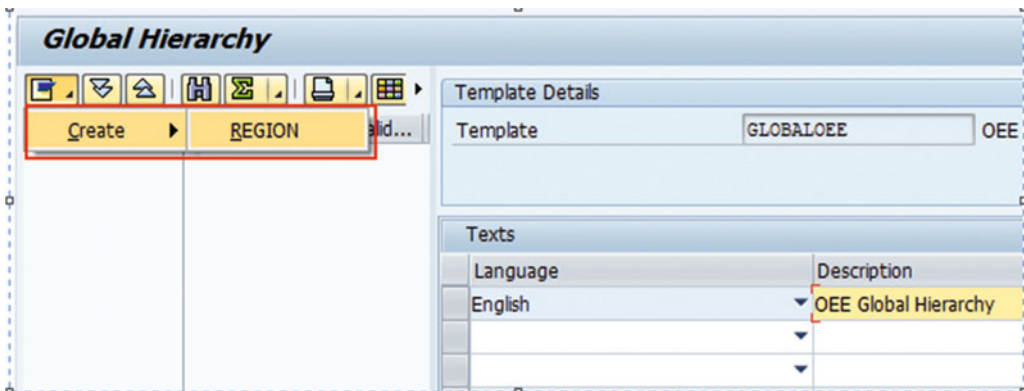

Figure 3-29. Configure global hierarchy nodes
3. Create / change / delete the nodes using the Node menu button on the top left menu bar. Select the first node, REGION. The node menu strictly follows the structure defined under the global hierarchy template (refer to Figure 3-29).